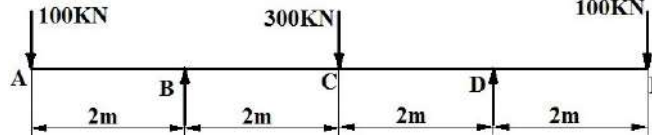

Figure 28
18. For the beam shown in **Figure 28**. Draw shear force and bending moment diagram